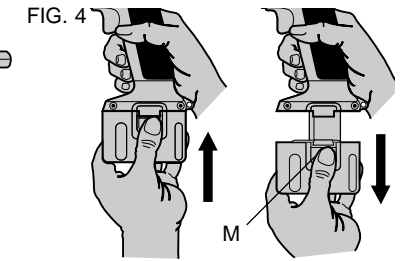

FIG. 4
To remove the battery pack from the tool, press the release buttons (M) and firmly pull the battery pack out of the tool handle. Insert it into the charger as described in the charger manual (Fig. 4).